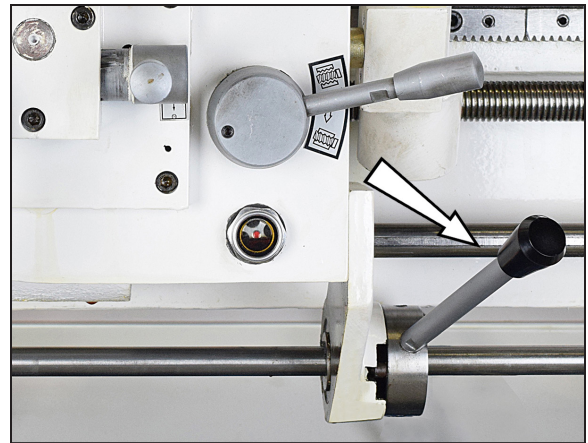

Figure 1-7 Motor control lever
7. Set the H-L gear levers to the lowest spindle speed, 60 rpm. Make sure the gears are properly meshed by "jiggling while shifting" — rotate the chuck back and forth by hand while moving the levers into position. Make certain that the motor control lever is set to OFF, mid-travel, Figure 1-7.